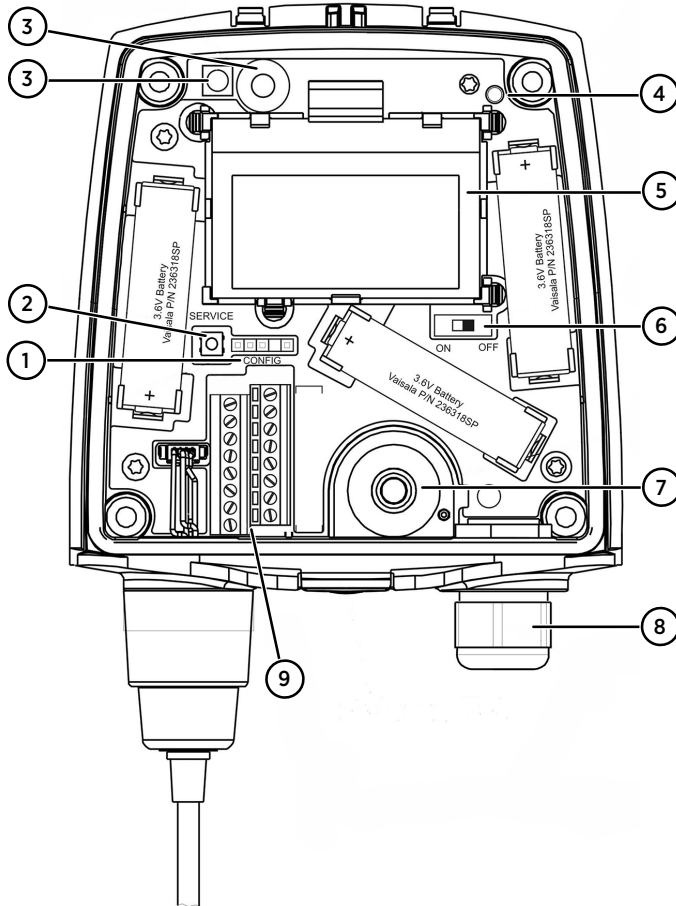

Figure 4 HMT140 Components Diagram
4. Install 3 × 3.6 V lithium batteries as indicated in Figure 4 \(page 11\).